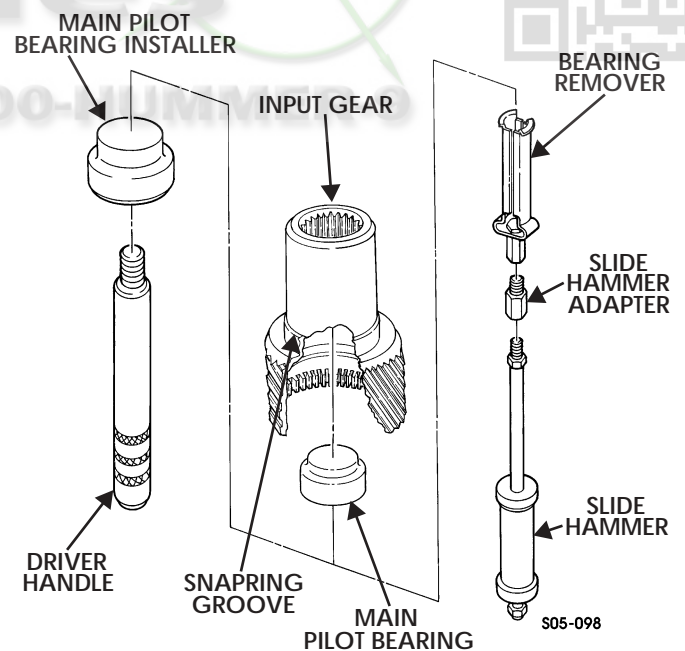

Figure 5-151: Pilot Bearing
1. Inspect input gear for damaged main pilot bearing and snapping groove (Figure 5-151).